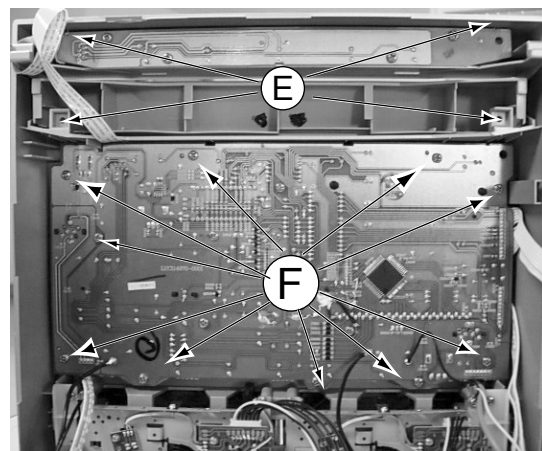

Figure 6
- 1) Loosen 4 screws 'E' to remove the Key board as shown in figure 6.
- 2) Loosen 10 screws 'F' to remove the Control board figure 6.